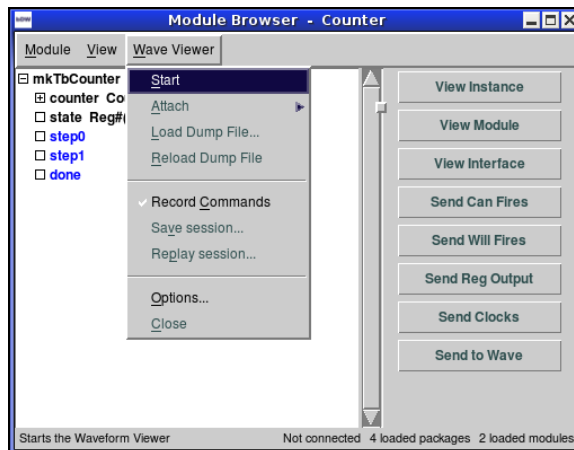

Figure 8: Module Browser - Waveform Viewer Menu
3. Start or Attach the waveform viewer (**Wave Viewer**→**Start** or **Wave Viewer**→**Attach**) to initiate communication between the workstation and the waveform viewer. The Waveform viewer menu is shown in Figure 8.